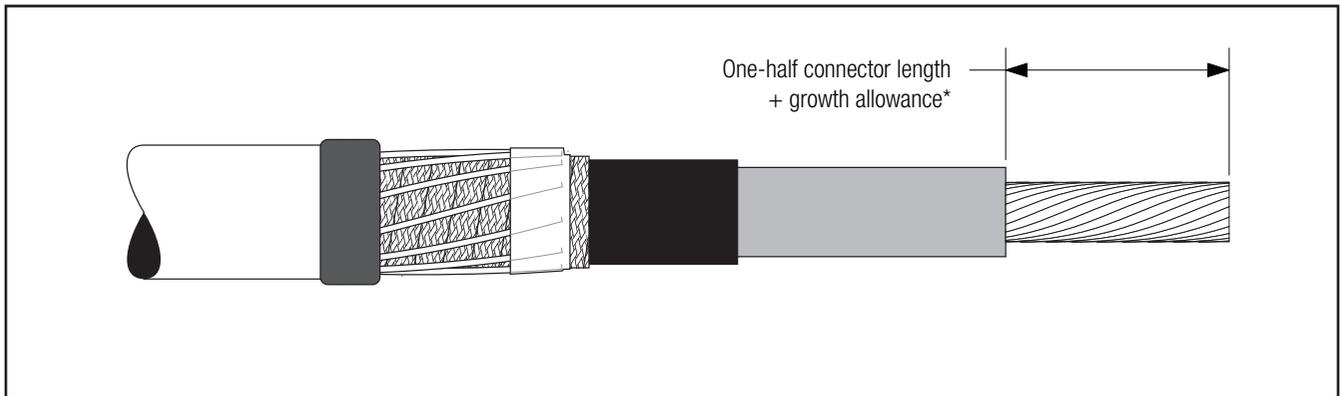

Figure 9
- 3.3 **If using a crimp type connector,** remove cable insulation for 1/2 connector length plus an allowance\* for increases in connector length due to crimping. Insulation removal length shall not exceed 4 1/8" (105 mm) from conductor end. **Do not install connector now** (Figure 9).